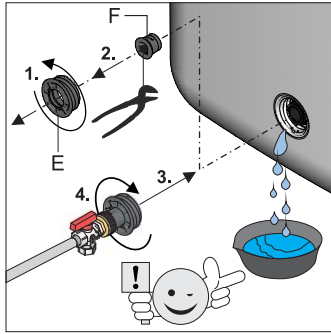

Fig. 5-4 Screw the KFE filling connection into the filling and draining fitting
- At the filling and emptying connection, unscrew the threaded piece (fig. 5-4, item E), remove the sealing plug (fig. 5-4, item F) and **immediately screw** the pre-assembled threaded insert with the **KFE filling connection** back into the filling and emptying connection (fig. 5-4).